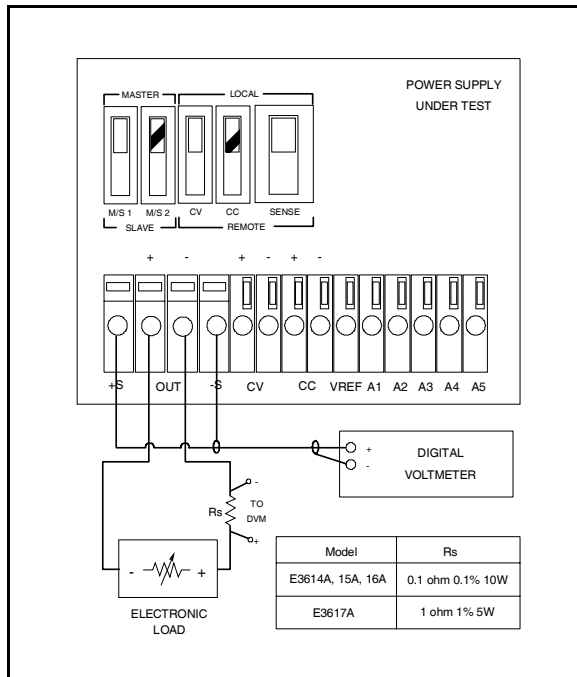

Figure A-4. Basic Test Setup
- Connect the test equipment as shown in Figure A-4. Operate the electronic load in constant current mode and set its current to the full rated value of the power supply (6 A for E3614A, 3 A for E3615A, 1.7 A for E3616A and 1 A for E3617A). Input off the electronic load.
- Connect the test equipment as shown in Figure A-4. Operate the electronic load in constant current mode and set its current to the full rated value of the power supply. Input off the electronic load.
- Connect the test equipment as shown in Figure A-4, but replace the DVM with the oscilloscope. Operate the electronic load in constant current mode.
- Connect the DVM across  $R_s$  in Figure A-4.
- Connect the DVM across  $R_s$  in Figure A-4. Operate the electronic load in constant voltage mode and set its voltage to the full rated value of power supply. Input off the electronic load.